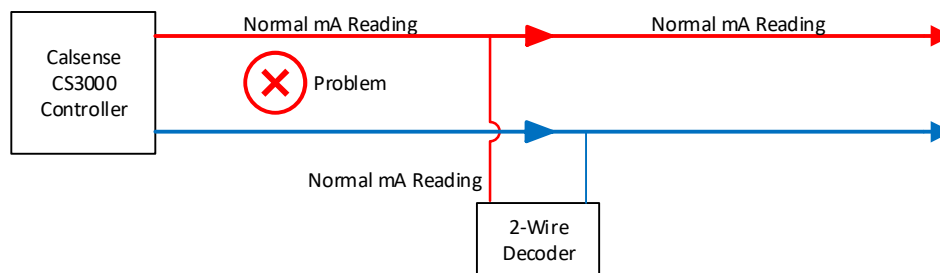

Figure 2 - Visual depiction of problem occurring upstream of measurement.
- If the readings are within or below the healthy range, you've passed the source of the excessive current, as shown in Figure 2 below. Move back up the 2-Wire path to the mid-point between your last reading and this location. Repeat steps 1-2 until you've identified the issue.